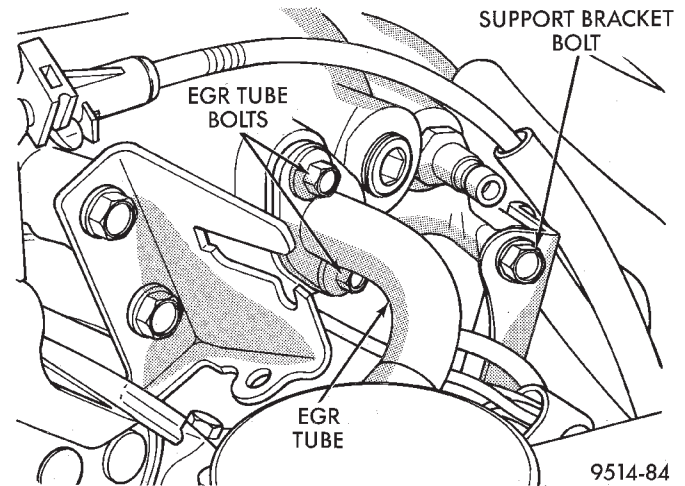

Fig. 38 EGR Tube and Right Manifold Support Bolt
(11) Remove EGR tube from intake plenum (Fig. 38).
(12) Remove plenum support bracket bolt located rearward of EGR tube (Fig. 38).
(13) Remove bolts holding upper intake plenum and remove plenum.
(14) Always remove the ignition cable by grasping at the spark plug boot turning, the boot 1/2 turn and pulling straight back in a steady motion.